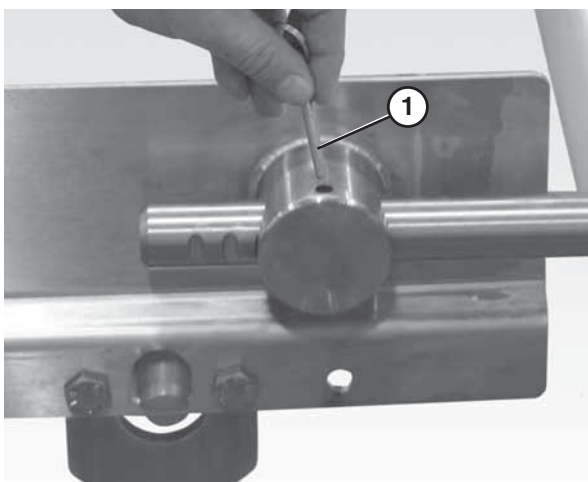

Figure 34
9. Insert the pull pins (**Figure 34, item 1**) on the tension end of the conveyor.